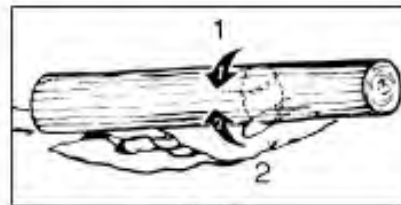

Fig.9
3. Log supported on both ends: First, overbuck 1/3 diameter of log to avoid splintering. Second, underbuck to meet first cut and avoid pinching (Fig. 9).